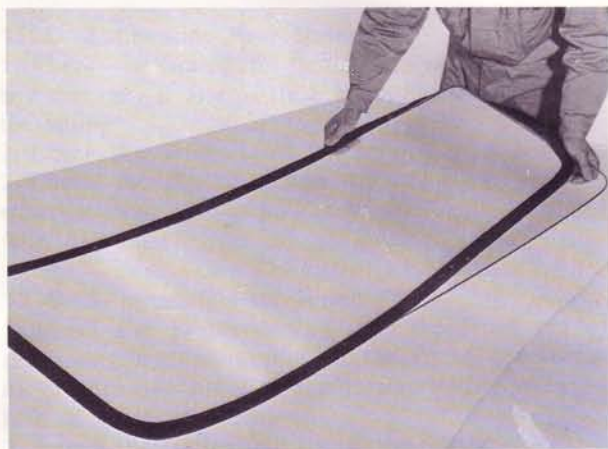

Fig. 14-2 Installing weatherstrip
1. Install the weatherstrip along the circumference of the windshield glass as shown in Fig. 14-2.